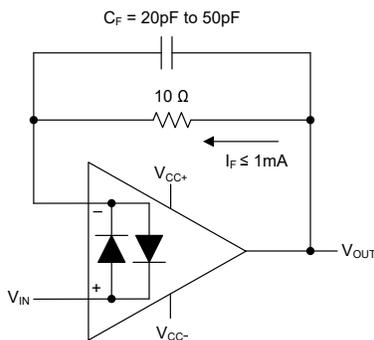

Figure 6-1. Voltage Follower
The TLE202x-Q1 circuitry includes input-protection diodes to limit the voltage across the input transistors; however, no provision is made in the circuit to limit the current if these diodes are forward biased. This condition sometimes occurs when the device is operated in the voltage-follower configuration and driven with a fast, large-signal pulse. Use a feedback resistor to limit the current to a maximum of 1mA to prevent degradation of the device. This feedback resistor forms a pole with the input capacitance of the device. For feedback resistor values greater than 10kΩ, this pole degrades the amplifier phase margin. Figure 6-1 shows that to alleviate this problem, add a capacitor (20pF to 50pF) in parallel with the feedback resistor.
- Updated Figure 6-1, *Voltage Follower* 23